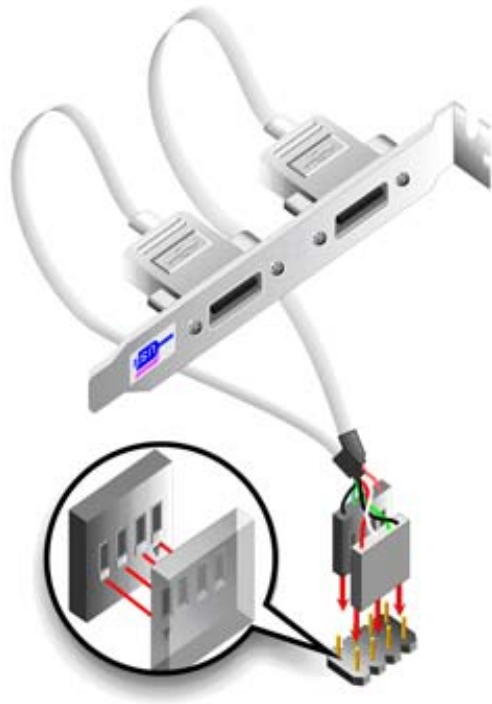

Figure 5-15: Dual USB Cable Connection
Step 3: Insert the cable connectors. Once the cable connectors are properly aligned with the USB connectors on the 3307800, connect the cable connectors to the onboard connectors. See **Figure 5-15**.